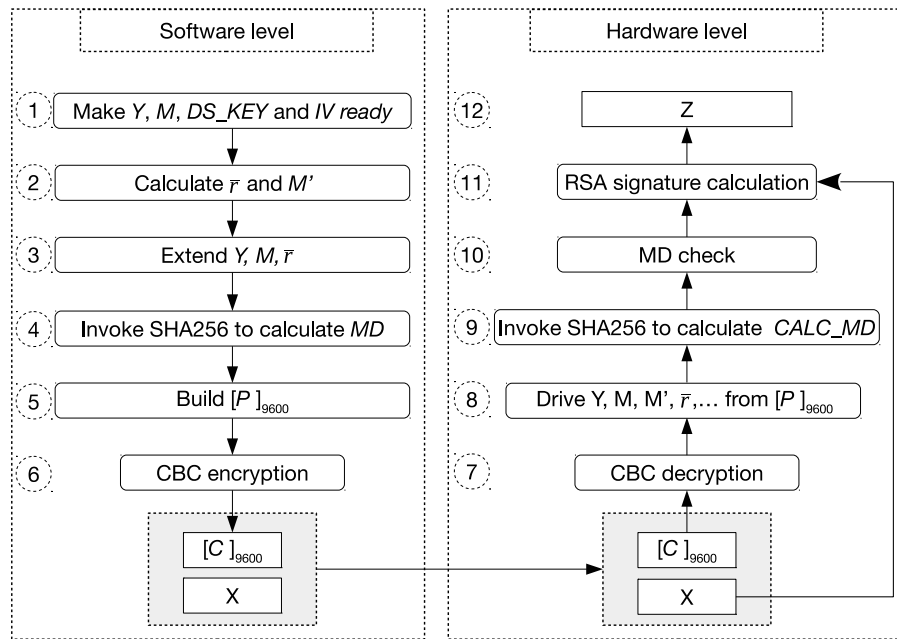

Figure 24.3-1. Software Preparations and Hardware Working Process
1. The software preparation (left side in the Figure 24.3-1) is a one-time operation before any signature is calculated, while the hardware calculation (right side in the Figure 24.3-1) repeats for every signature calculation.
Users need to follow the steps shown in the left part of Figure 24.3-1 to calculate C . Detailed instructions are as follows:
1. Decryption: Step 7 and 8 in Figure 24.3-1
The decryption process is the inverse of Step 6 in figure 24.3-1. The DS module will call the AES accelerator to decrypt C in CBC block mode and get the resulting plaintext. The decryption process can be represented by $P = \text{AES-CBC-DEC}(C, DS\_KEY, IV)$, where IV (i.e., $[IV]_{128}$) is defined by the user. $[DS\_KEY]_{256}$ is provided by the HMAC module, derived from $HMAC\_KEY$ stored in eFuse. $[DS\_KEY]_{256}$, as well as $[HMAC\_KEY]_{256}$ are not readable by users. For more information, please refer to Chapter 21 HMAC Accelerator \(HMAC\).
2. Check: Step 9 and 10 in Figure 24.3-1
The DS module will perform two checks: MD check and padding check. Padding check is not shown in Figure 24.3-1, as it happens at the same time as MD check.
3. Calculation: Step 11 and 12 in Figure 24.3-1